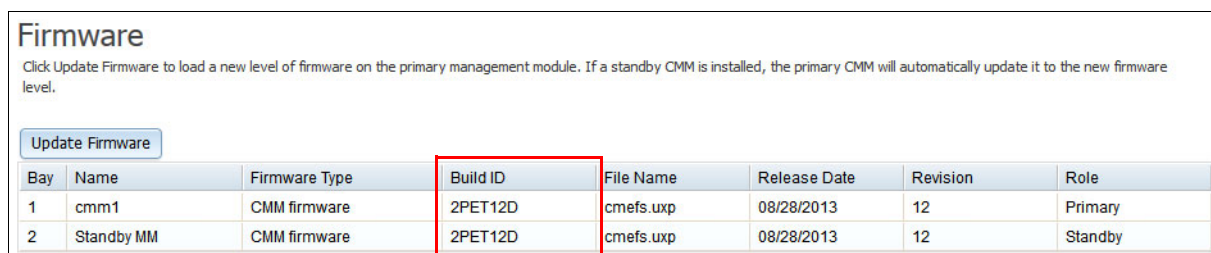

Figure 4-20 Checking the current firmware level
2. Check the current firmware level on the CMMs as shown in Figure 4-20.